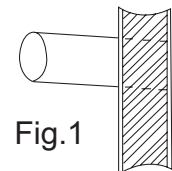

Fig.1
(1) Cut a hole on the wall and put the connecting pipe and connecting thread into the PVC, which is purchased at the local shop. With a slight downwards tilt towards the exterior, the gradient should be kept at least 1/100, as shown in Fig. 1.